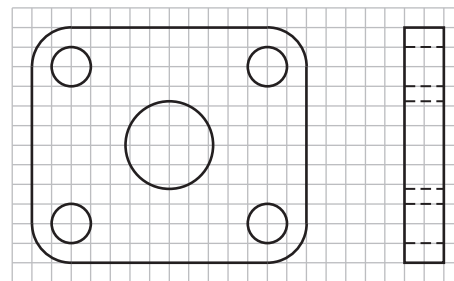

Fig. 24-6
1. Create the drawing of the washing machine spacer from the graph paper sketch in Fig. 24-6. Each square represents .25 in. Add a title and include a note saying that the material is SAE 1010 carbon steel. Make the appropriate drawing setup and create the necessary layers. Add center lines for all holes. Save the drawing as **ch24spacer.dwg**.